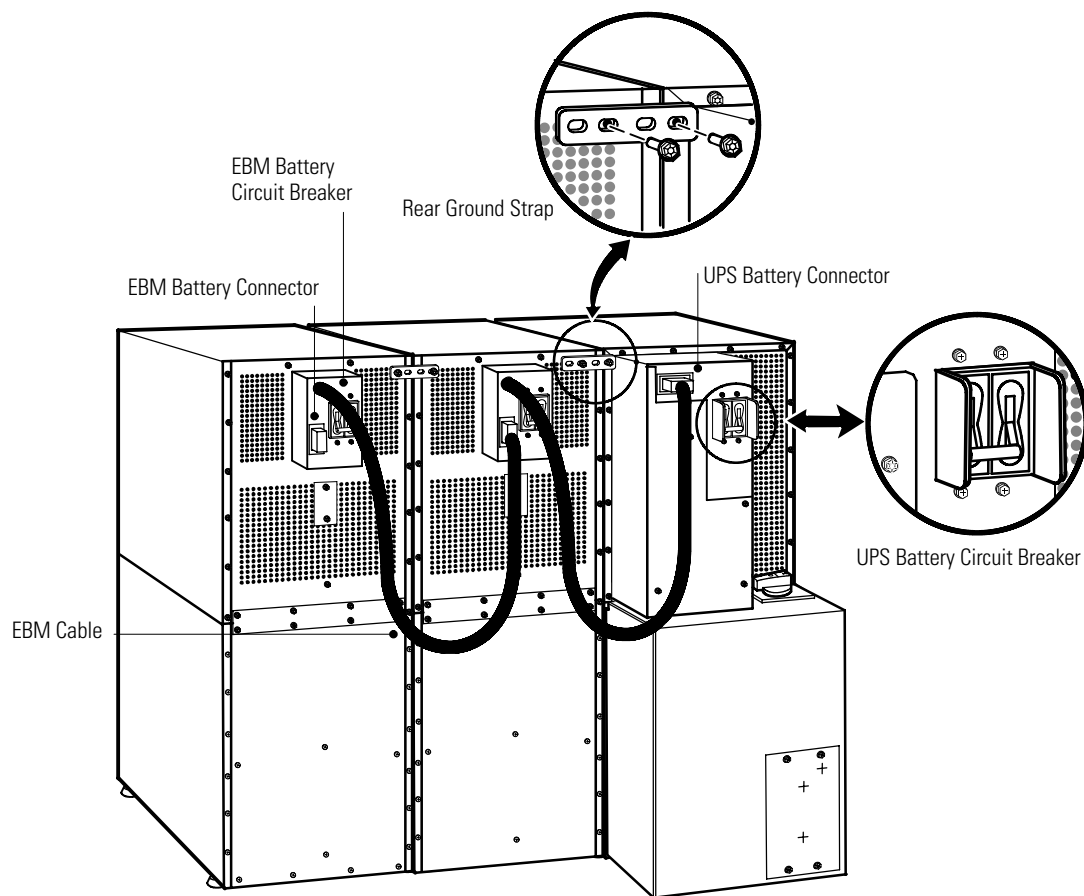

Figure 32. Typical EBM Installation (2-High Cabinets Shown)
2. Verify that all battery circuit breakers are in the OFF position (see Figure 32).
4. Install one ground strap between the UPS and EBM rear panels as shown in Figure 32.
5. If additional EBMs are installed, attach another ground strap between the first and second EBM as shown in Figure 32. Repeat for each additional EBM.